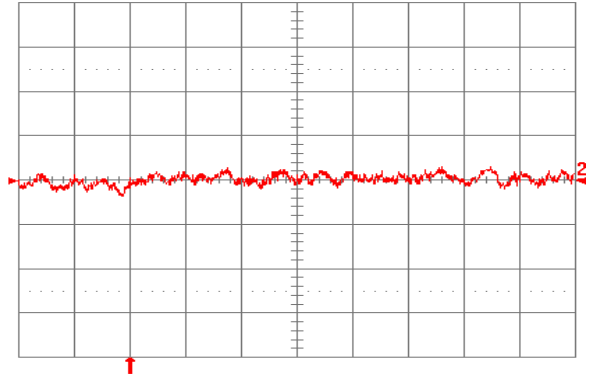

**Fig. 8.0V.14:** Test Setup for measuring input reflected ripple currents,  $i_c$  and  $i_s$ .
**Fig. 8.0V.1:** Available load current vs. ambient air temperature and airflow rates for SQ48T05080 converter with D height pins mounted vertically with  $V_{in} = 48\text{ V}$ , air flowing from pin 3 to pin 1, and maximum FET temperature  $\leq 120^\circ\text{C}$ .
**Fig. 8.0V.2:** Available load current vs. ambient air temperature and airflow rates for SQ48T05080 converter with D height pins mounted horizontally with  $V_{in} = 48\text{ V}$ , air flowing from pin 3 to pin 1, and maximum FET temperature  $\leq 120^\circ\text{C}$ .
**Fig. 8.0V.3:** Available load current vs. ambient air temperature and airflow rates for SQ48S05080 converter mounted vertically with  $V_{in} = 48V$ , air flowing from pin 3 to pin 1, and maximum FET temperature  $\leq 120^{\circ}C$ .
**Fig. 8.0V.4:** Available load current vs. ambient air temperature and airflow rates for SQ48S05080 converter mounted horizontally with  $V_{in} = 48V$ , air flowing from pin 3 to pin 1, and maximum FET temperature  $\leq 120^{\circ}C$ .
**Fig. 8.0V.5:** Efficiency vs. load current and input voltage for SQ48T/S05080 converter mounted vertically with  $V_{in} = 48V$ , air flowing from pin 3 to pin 1 at a rate of 300 LFM (1.5 m/s) and  $T_a = 25^{\circ}C$ .
**Fig. 8.0V.6:** Efficiency vs. load current and ambient temperature for SQ48T/S05080 converter mounted vertically with  $V_{in} = 4V$  and air flowing from pin 3 to pin 1 at a rate of 200 LFM (1.0m/s).
**Fig. 8.0V.7:** Power dissipation vs. load current and input voltage for SQ48T/S05080 converter mounted vertically with air flowing from pin 3 to pin 1 at a rate of 300 LFM (1.5 m/s) and  $T_a = 25^\circ\text{C}$ .
**Fig. 8.0V.8:** Power dissipation vs. load current and ambient temperature for SQ48T/S05080 converter mounted vertically with  $V_{in} = 48\text{V}$  and air flowing from pin 3 to pin 1 at a rate of 200 LFM (1.0 m/s).
**Fig. 8.0V.9:** Turn-on transient at full rated load current (resistive) with no output capacitor at  $V_{in} = 48\text{V}$ , triggered via ON/OFF pin. Top trace: ON/OFF signal (5 V/div.). Bottom trace: output voltage (2 V/div.). Time scale: 1 ms/div.
**Fig. 8.0V.10:** Turn-on transient at full rated load current (resistive) plus 2,200  $\mu\text{F}$  at  $V_{in} = 48\text{V}$ , triggered via ON/OFF pin. Top trace: ON/OFF signal (5 V/div.). Bottom trace: output voltage (2 V/div.). Time scale: 2 ms/div.
**Fig. 8.0V.11:** Output voltage response to load current step-change (1.325A – 2.65A – 1.325A) at  $V_{in} = 48V$ . Top trace: output voltage (200 mV/div.). Bottom trace: load current (1 A/div.). Current slew rate: 0.1 A/ $\mu$ s.  $C_o = 1 \mu F$  ceramic. Time scale: 0.5 ms/div.
**Fig. 8.0V.12:** Output voltage response to load current step-change (1.325A – 2.65A – 1.325A) at  $V_{in} = 48V$ . Top trace: output voltage (200 mV/div.). Bottom trace: load current (1 A/div.). Current slew rate: 5 A/ $\mu$ s.  $C_o = 94 \mu F$  tantalum +  $1 \mu F$  ceramic. Time scale: 0.5 ms/div.
**Fig. 8.0V.13:** Output voltage ripple (50 mV/div.) at full rated load current into a resistive load with  $C_o = 10 \mu F$  tantalum +  $1 \mu F$  ceramic and  $V_{in} = 48V$ . Time scale: 1  $\mu$ s/div.
**Fig. 8.0V.15:** Input reflected ripple current,  $i_c$  (100 mA/div.), measured at input terminals at full rated load current and  $V_{in} = 48V$ . Refer to Fig. 8.0V.14 for test setup. Time scale: 1  $\mu s$ /div.
**Fig. 8.0V.16:** Input reflected ripple current,  $i_s$  (10 mA/div.), measured through 10  $\mu H$  at the source at full rated load current and  $V_{in} = 48V$ . Refer to Fig. 8.0V.14 for test setup. Time scale: 1  $\mu s$ /div.
**Fig. 8.0V.17:** Output voltage vs. load current showing current limit point and converter shutdown point. Input voltage has almost no effect on current limit characteristic.
**Fig. 8.0V.18:** Load current (top trace, 5 A/div., 20 ms/div.) into a 10  $m\Omega$  short circuit during restart, at  $V_{in} = 48V$ . Bottom trace (5 A/div., 1 ms/div.) is an expansion of the on-time portion of the top trace.